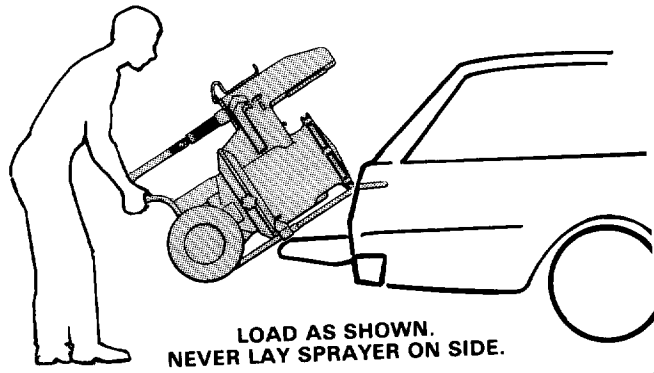

Fig 8
10. To transport the sprayer, empty the wet-cup, or reduce the level of Throat Seal Liquid (TSL) to 1/3 full or less, and stuff a rag into the wet-cup. Load the sprayer as shown in Fig 8. To avoid leakage of hydraulic fluid, never lay sprayer on its side.